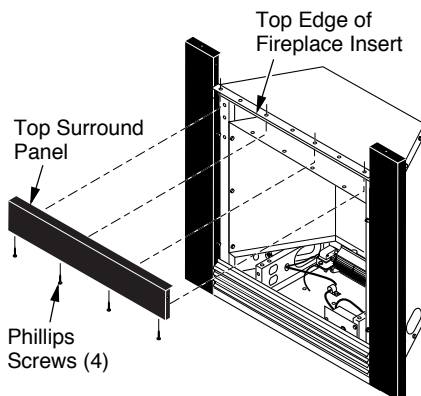

Figure 8 - Attaching Top Surround Panel
- Place top surround panel at top of fireplace insert. Bottom edge of panel will slide under top edge of insert. Align top panel screw holes with those in insert. Install four #10 Phillips screws, do not tighten. See Figure 8.